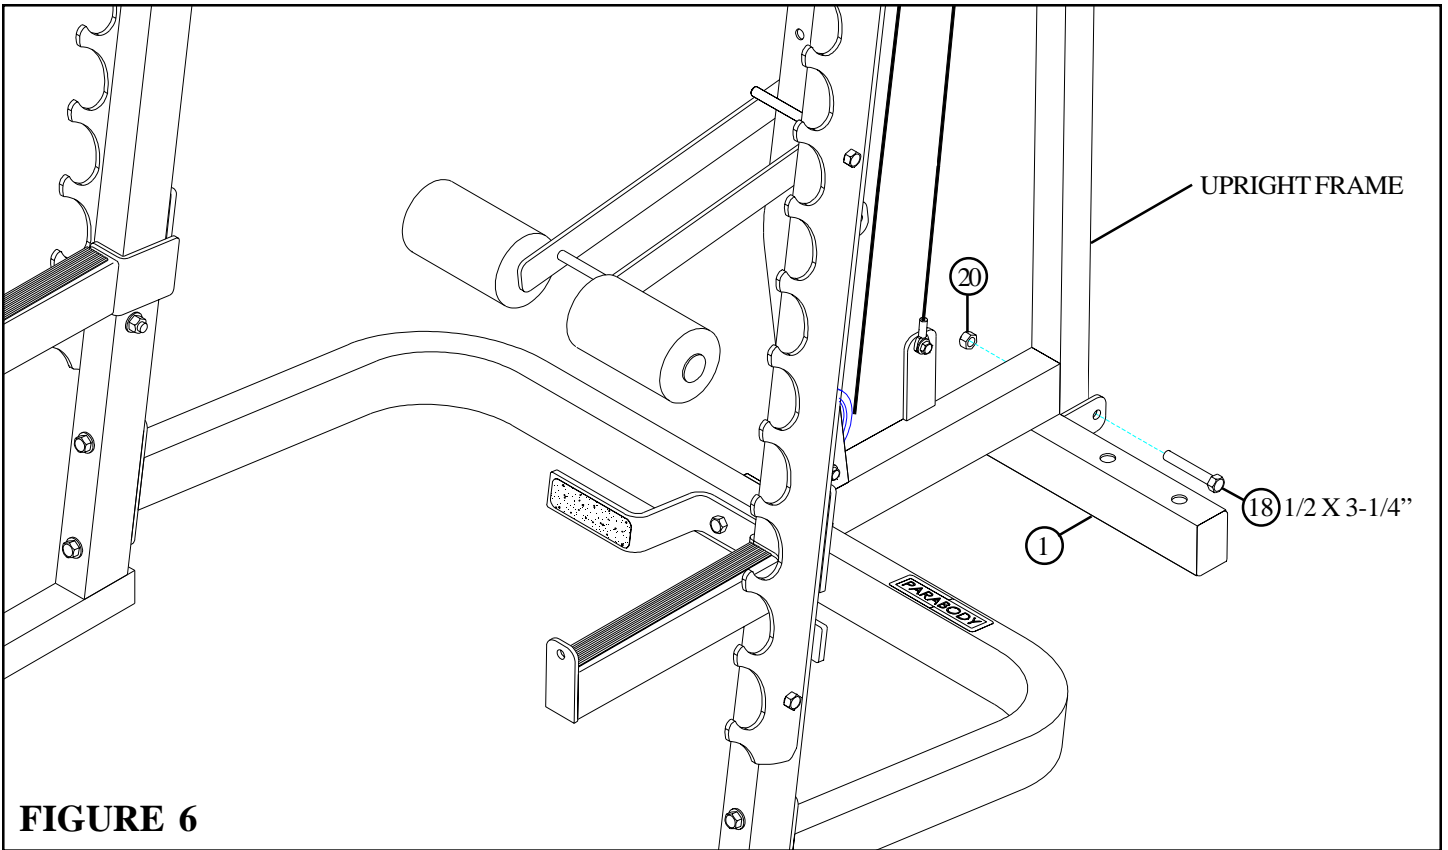

FIGURE 6
- **SECURELY** assemble the STACK BASE (1) to the bottom of the UPRIGHT FRAME using one 1/2 X 3-1/4" BOLT (18) and one 1/2" LOCK NUT (20) as shown in FIGURE 6.